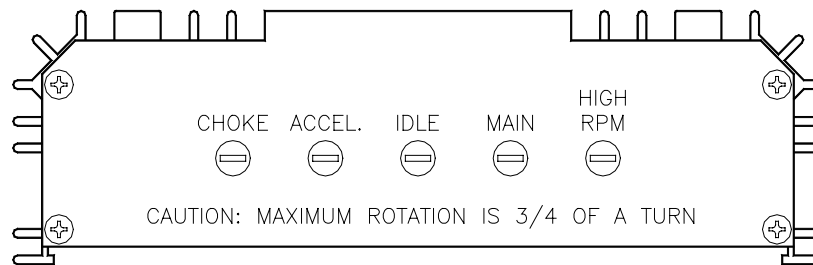

Figure 14
4. Although the adjustment potentiometers on the front of the digital ECU were set at the factory in the null position, check to ensure that they were not moved. If necessary, rotate the potentiometers, so that they are positioned as in Figure 14.